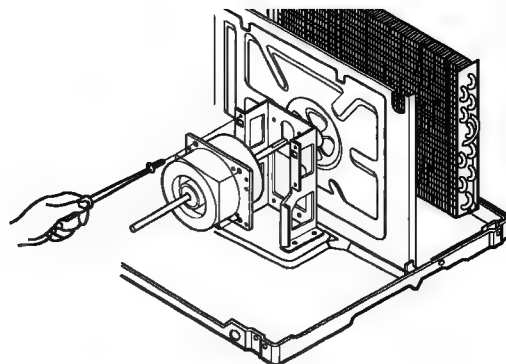

Figure 15
7. Remove the 2 or 4 screws which fasten the motor from the mount motor. (See Figure 15)
9. Re-install the components by referring to the removal procedure, above. (See Figure 15)